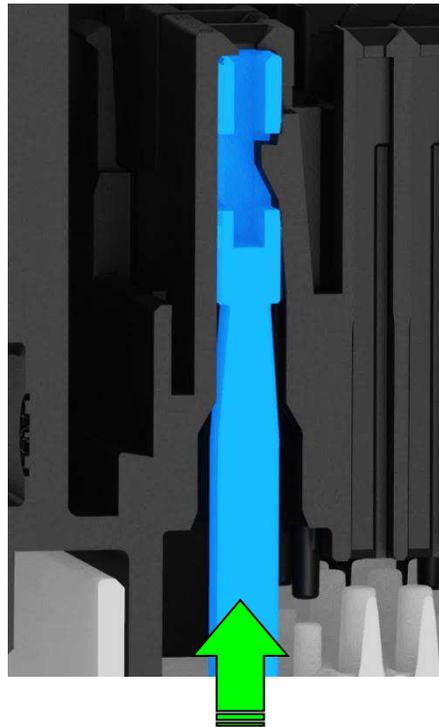

Figure 42
1. Push the seal plug forward until it stops. See Figure 42.